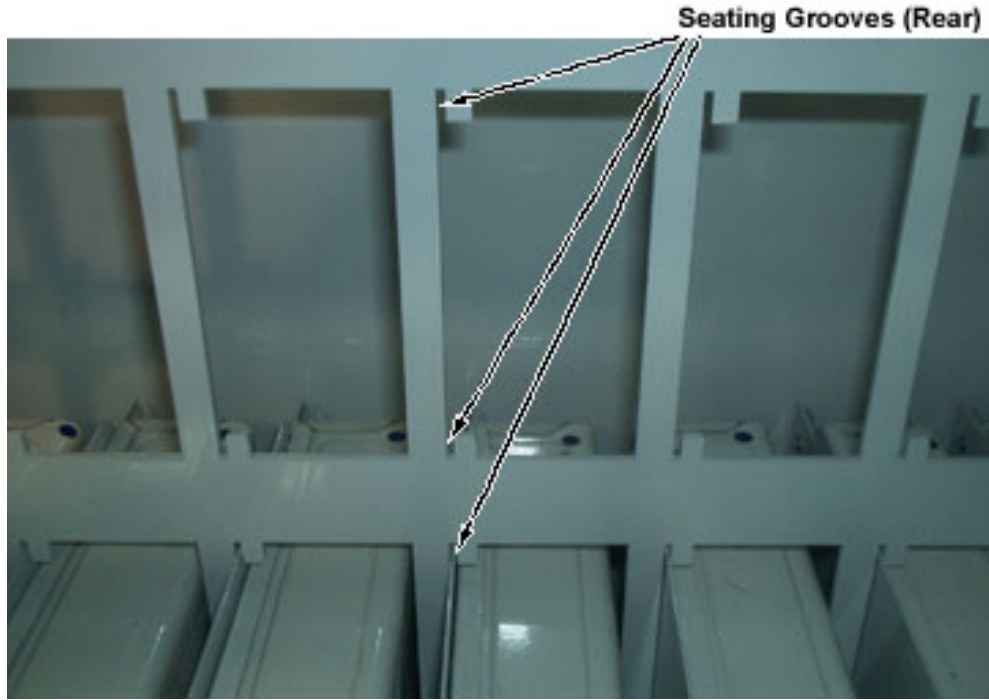

Figure 13: Ballast Seat Groove Detail
4. Slide new ballast into the slot and insert retaining screw (Figure 13: Ballast Seat Groove Detail).